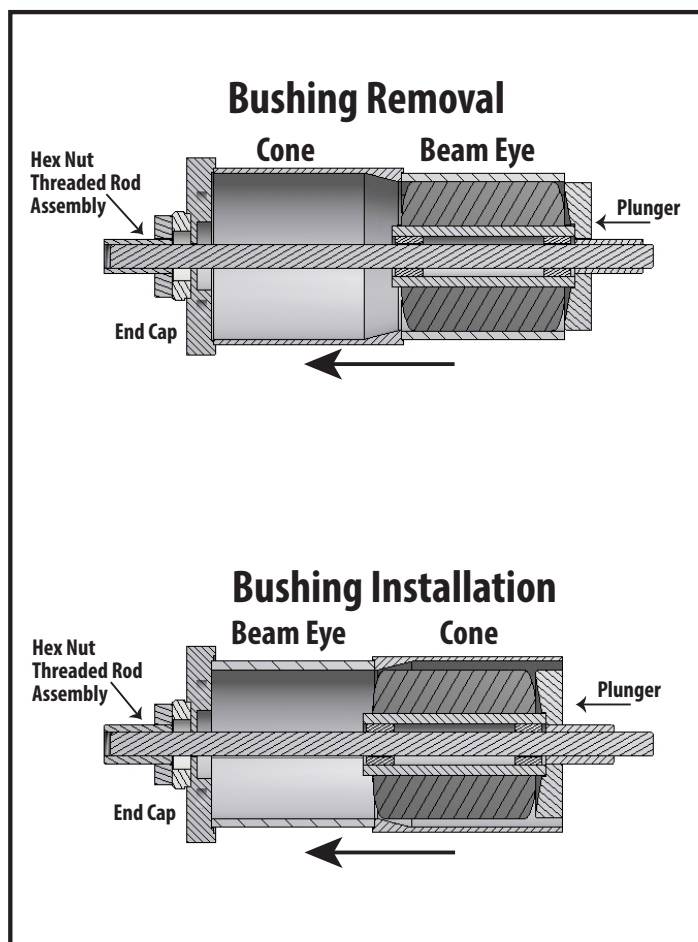

Figure 9.
- Assemble the bushing replacement tool and place on the eye of the beam (Figure 9). NOTE: Cone is tapered inside to smaller opening on one end.
4. Assemble the bushing replacement tool and place on the eye of the beam (Figure 9).